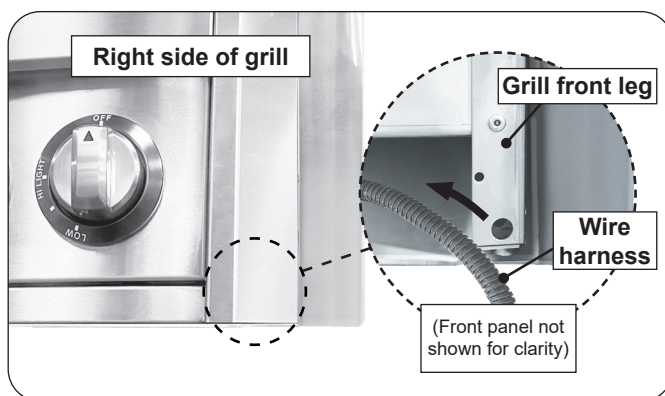

Fig. 15-2 Route wire harness
- Route the wire harness extension down the left side of the grill front leg (see Fig. 15-2). Routing the harness on the right side of the front leg will cause pinching and damage to the wiring.